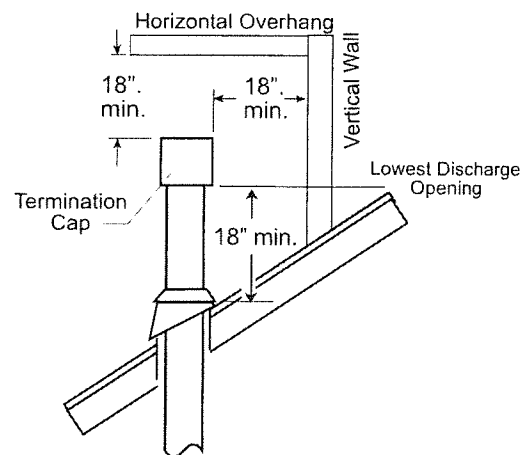

Figure 20.
- **GAS VENT HEIGHT:** In no case shall any discharge opening on the cap be less than 18" (457 mm) horizontally from the roof surface. See fig. 20.